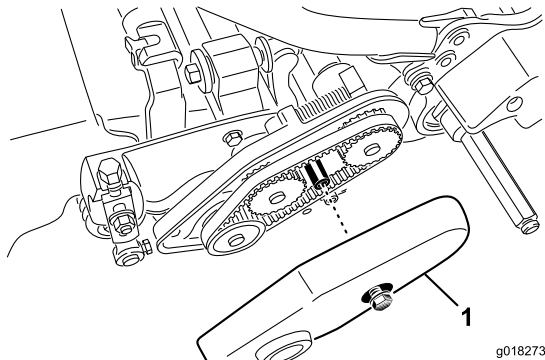

Figure 42
2. Loosen the flange bolt securing the belt cover and remove the belt cover to expose the belt (Figure 42).